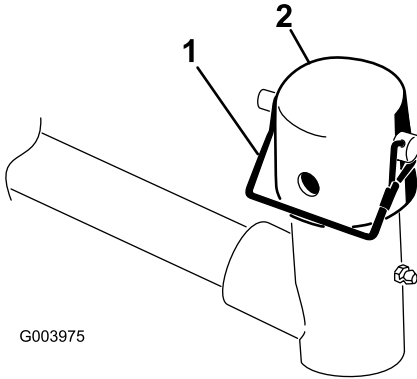

Figure 4
3. At each cutting unit lift arm, remove the snapper pin that secures the cap to the lift arm pivot yoke, and remove the cap (Figure 4).